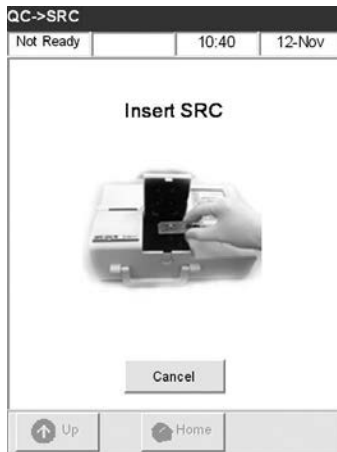

Fig. 4-4 Insert SRC
5. Examine the SRC to ensure it is clean and insert it into the chamber. Press down to properly seat the SRC (Fig. 4-4).